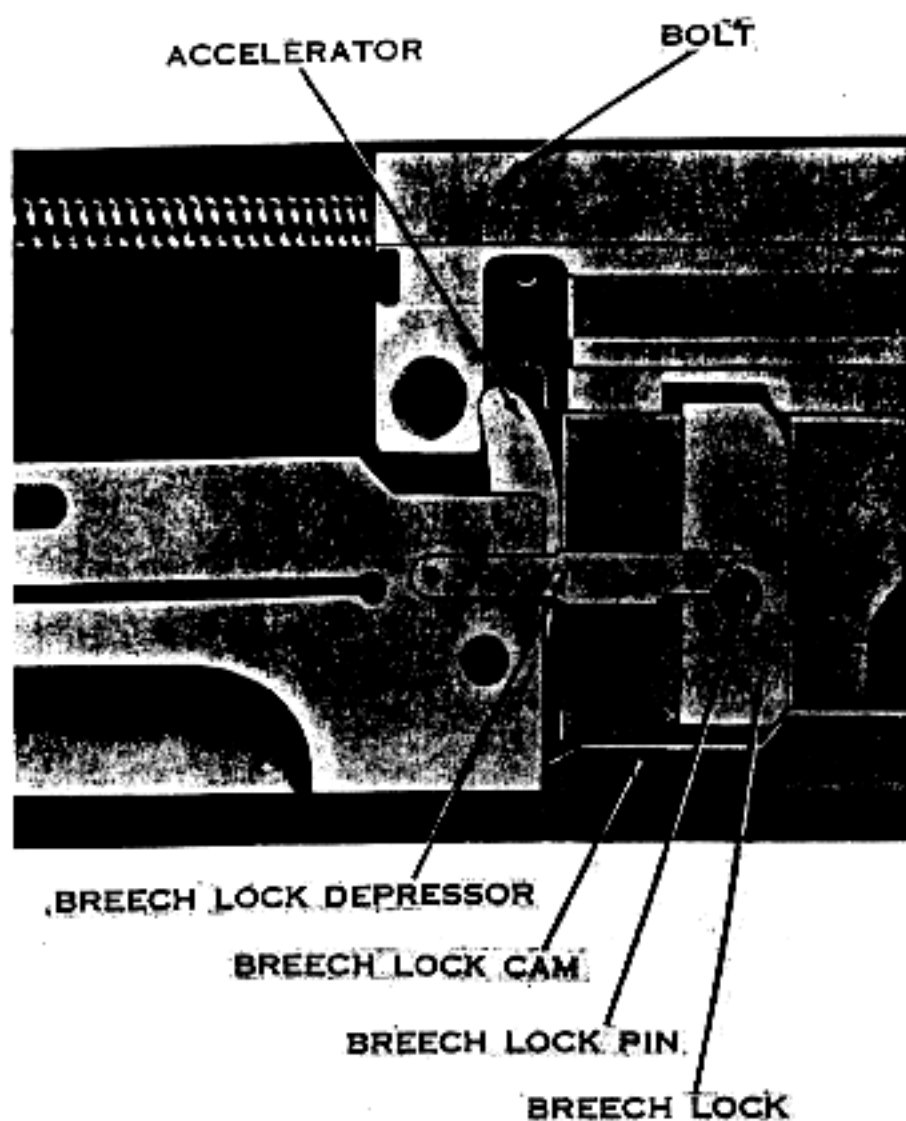

Figure 97. Unlocking—breech lock being forced out of its recess in the bolt.
b. When the cartridge explodes, the bullet travels out of the barrel; the force of recoil drives the recoiling groups rearward. During the first three-fourths of an inch, the recoiling groups are locked together. As this movement takes place, the breech lock is moved off the breech lock cam stop, allowing the breech lock depressors (acting on the breech lock pin) to force the breech lock down, out of its recess from the bottom of the bolt (fig 97). At the end of the first three-fourths of an inch of recoil, the bolt is unlocked, free to move to the rear, independent of the barrel and barrel extension (fig 98).
extraction of the case, the top forward edge of the breech lock and the forward edge of the lock recess in the bolt are beveled. As the breech lock is unlocked, the initial movement of the bolt away from the barrel and barrel extension is gradual (fig 97).